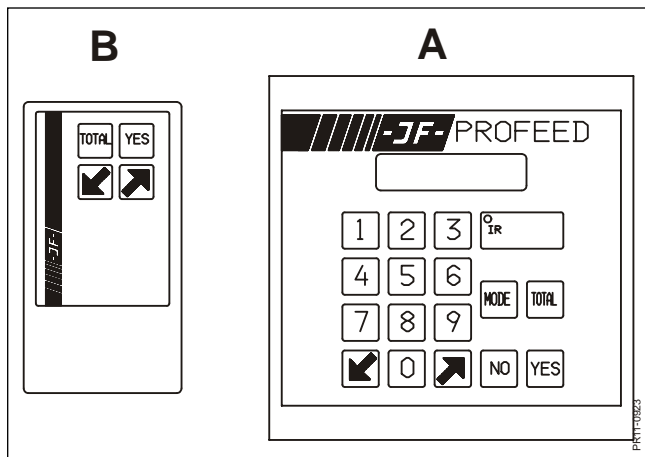

Fig. 7.1
Fig. 7.1 PROFEED is an electronic unit (A), to be built into the existing weighing instrument on your JF-Feeder, unless the Feeder has been delivered with PROFEED as standard. A 4-channel remote control (B) is delivered as standard, which ensures that the user has complete control of the system during filling of forage. PROFEED has 2 main functions: